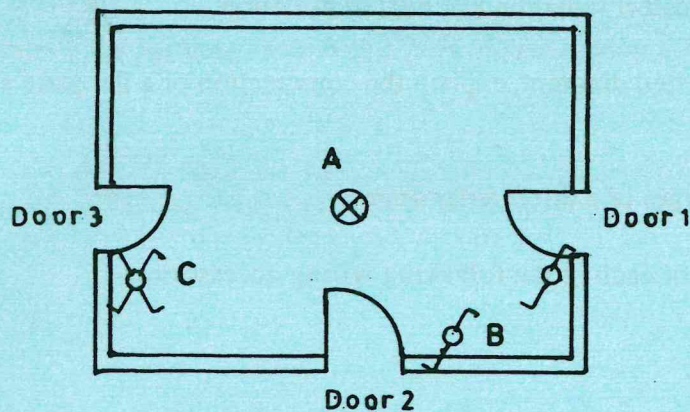

Fig. 1
- (b) **Figure 1** shows the plan of a house.